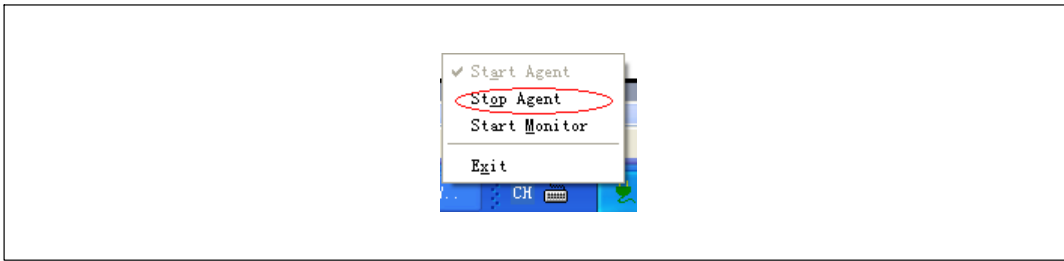

Figure 21. Stop Agent
- 2 Stop the Agent. Right click the Dell UPS Management Software Tray Icon and select **Stop Agent** (see Figure 21).